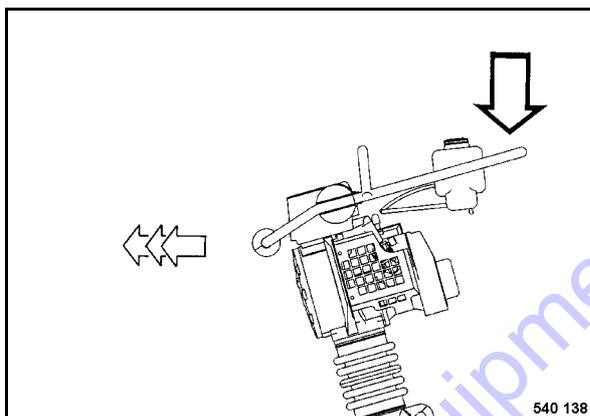

Fig. 22
- The travel speed can also be influenced by varying the pressing force on the steering bow (Fig. 22).